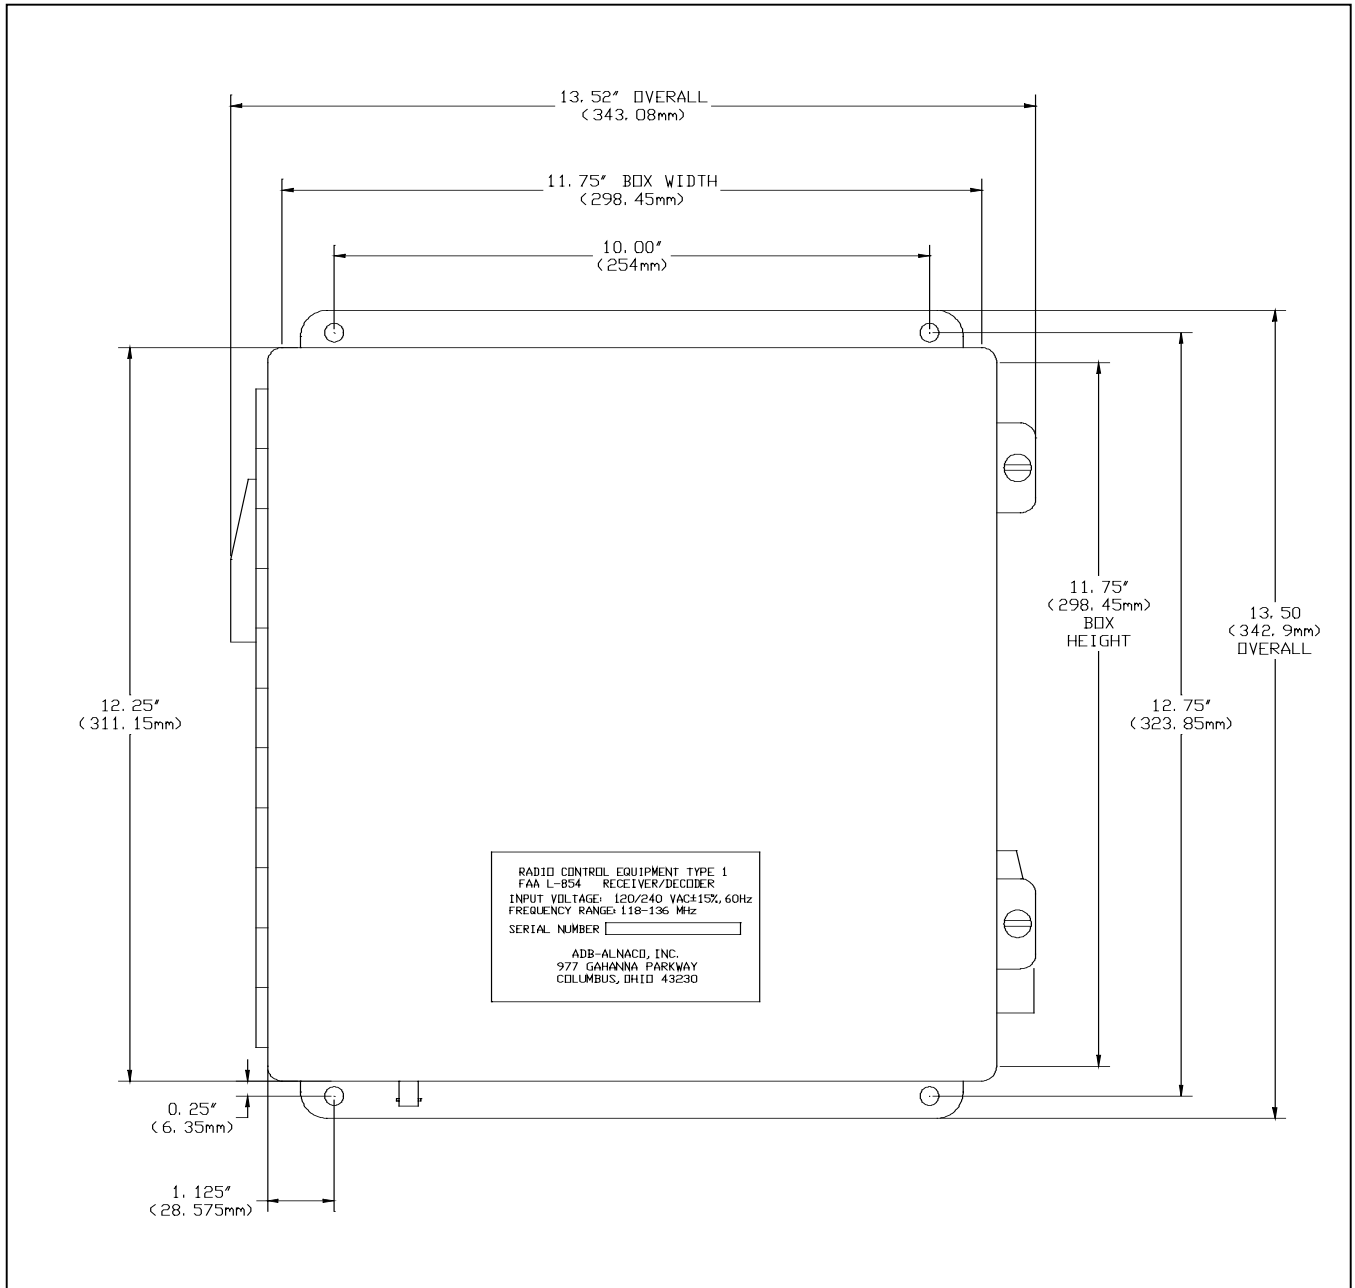

Figure 4. Mounting Dimensions
2. See Figure 4. Install the radio unit using the four mounting holes.